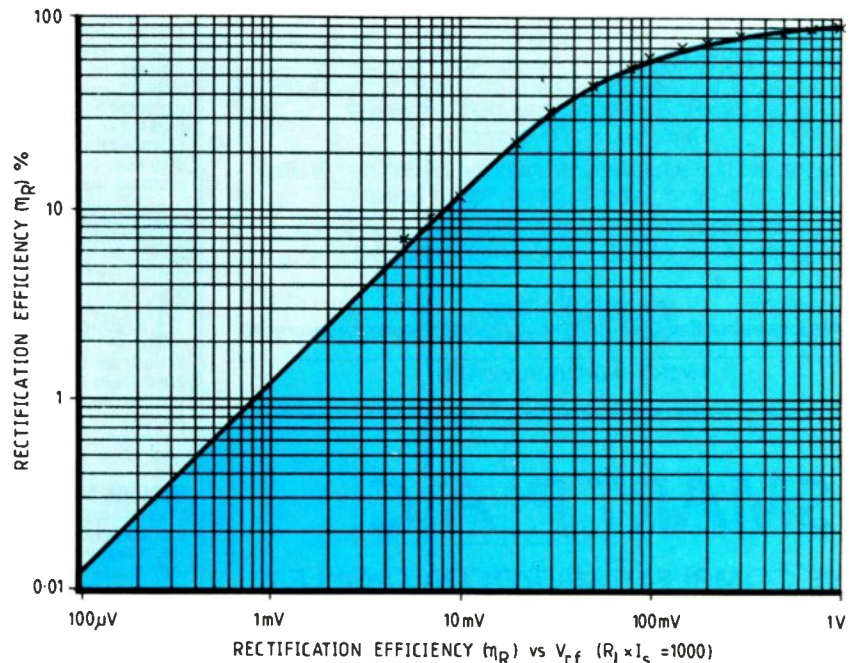

Fig.2. Computer plot of rectification efficiency of a half-wave circuit.
A computer plot of eq.(4) in the form $\eta_R(V_{rf})$ vs. V_{rf} is depicted in Fig.2. The Bessel integral.
Eq.(8), illustrated by the straight-line portion of the curve in Fig.2, indicates that for small V_{rf} , V_{dc} is proportional to the square of V_{rf} . For signals of $V_{rf} = 30\text{mV}$ or less, the detector practically behaves as 'a square law' device. However, this square-law response offers both advantages and disadvantages.